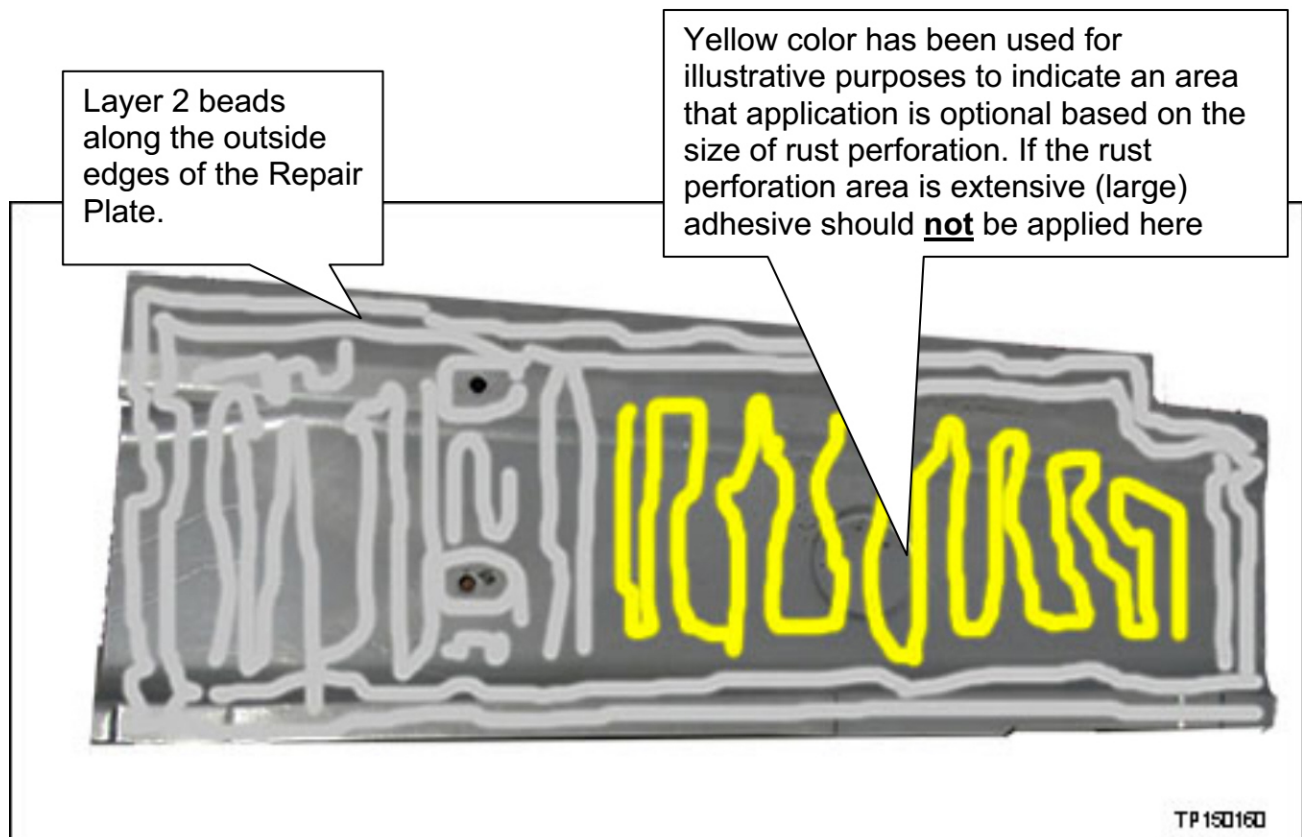

Figure 7
13. Liberally apply Lord Fusor[®] 108B to the back side of the Repair Plate as shown in Figure 7.